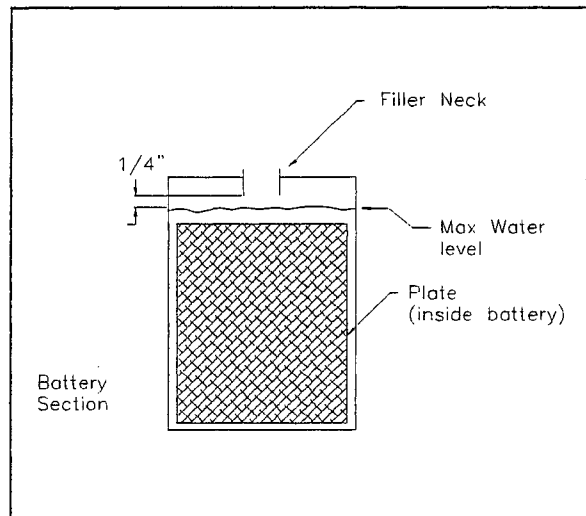

Figure 3-29
- Check the electrolyte in all of the batteries. If low, fill with distilled water to the correct level (see figure 3-29).